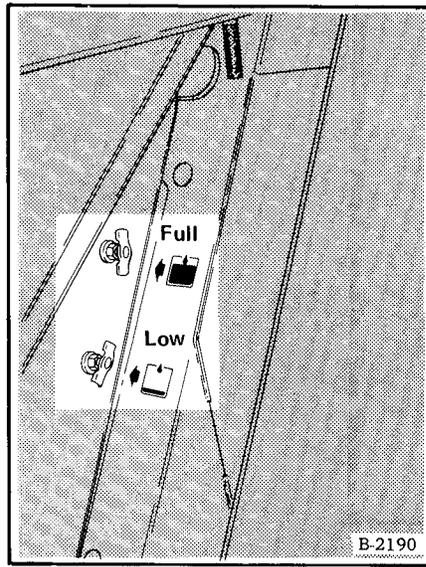

Fig. 1-28 Hydraulic Reservoir Level Check
- (1) Put the loader on a level surface.
- (2) Open the lower valve on the side of the reservoir (Fig. 1-28, Item 1). If no fluid flows, close the valve.
(3) Open the upper valve (Fig. 1-28, Item 2). Remove the reservoir fill cap (Fig. 1-29) and add recommended fluid. When the fluid flows from the upper valve, close the valve and install the fill cap.
(4) Open the upper valve at the side of the reservoir (Fig. 1-28, Item 2). Add recommended fluid (about 4 gallons [15 Ltrs.]) to the reservoir. When fluid flows at the open valve, close the valve and install the filler cap.